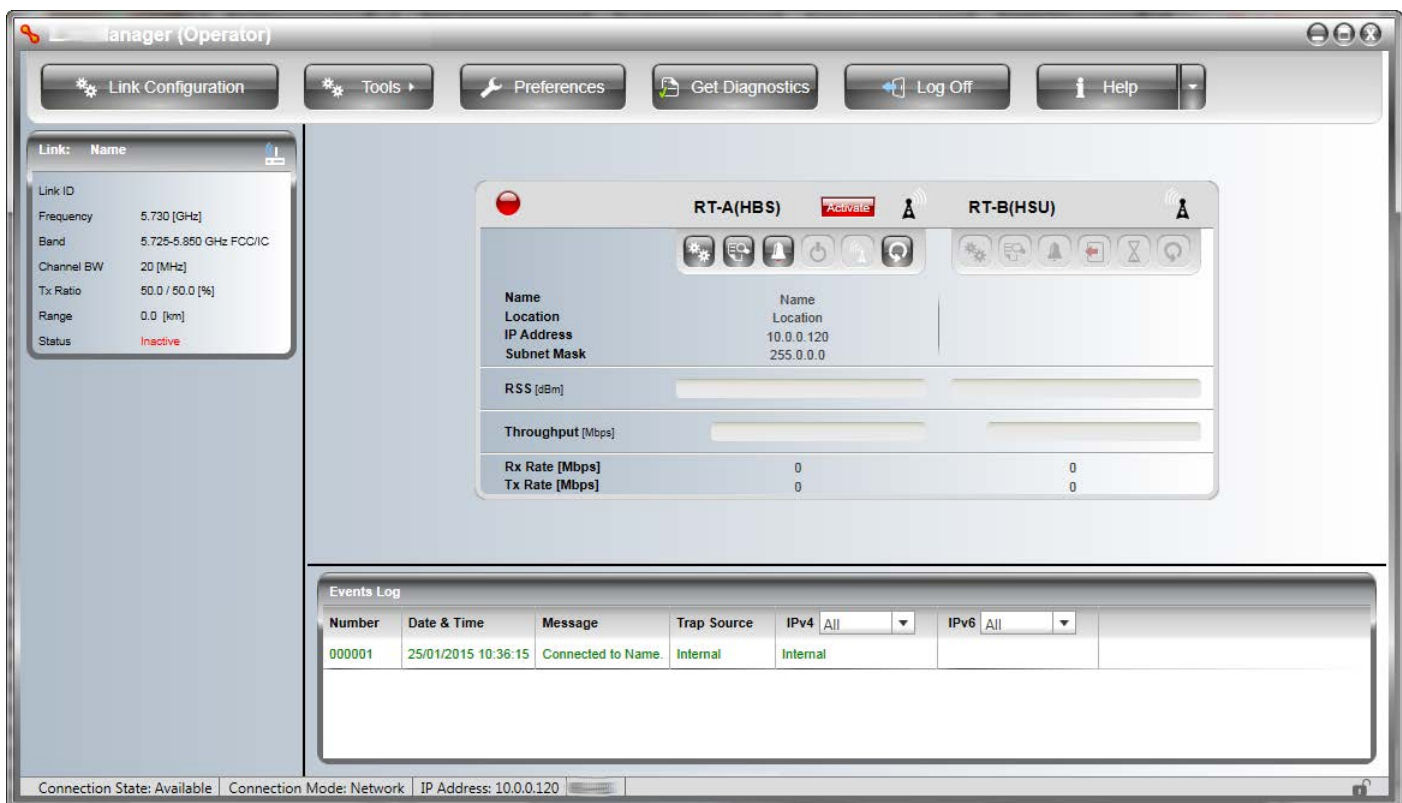

Figure 2-10: Main window prior to link configuration
5. If the log-on was successful, you should see the initial RADWIN Manager screen (see Figure 2-10).
Once you have set all fields properly, click OK. The RADWIN Manager main screen (Figure 2-10) should appear.